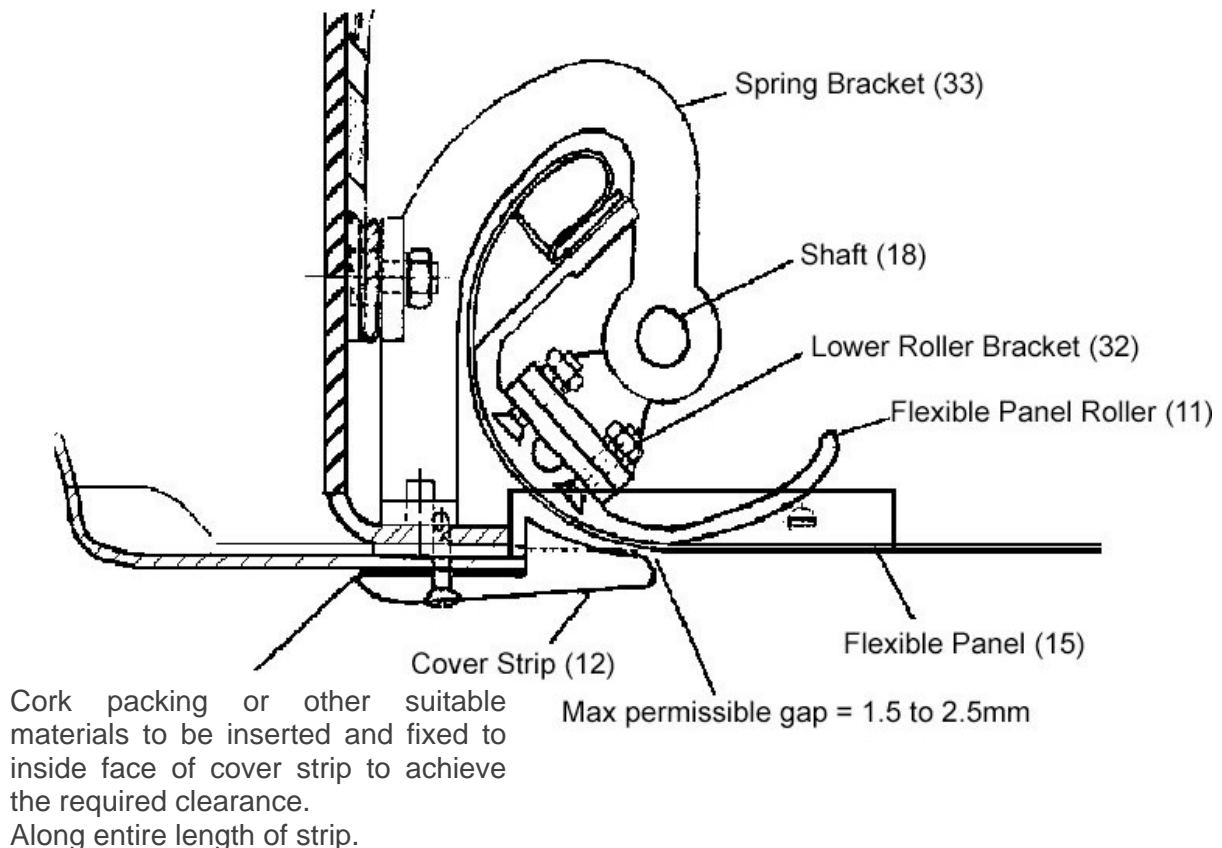

Figure 3: Method of applying packing behind the cover strip to achieve the required gap between the flexible panel/cover strip
5. Remove or insert packing under cover strip (see Figure 3 item 12) to obtain correct clearance.